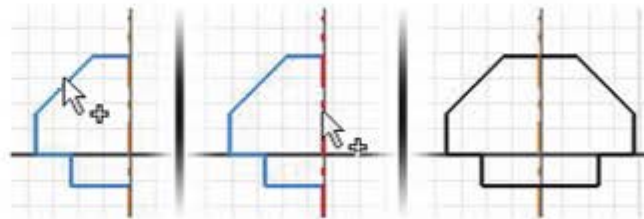

Figure 3–71
4. How was the profile, shown in Figure 3–71, created in sketch mode?